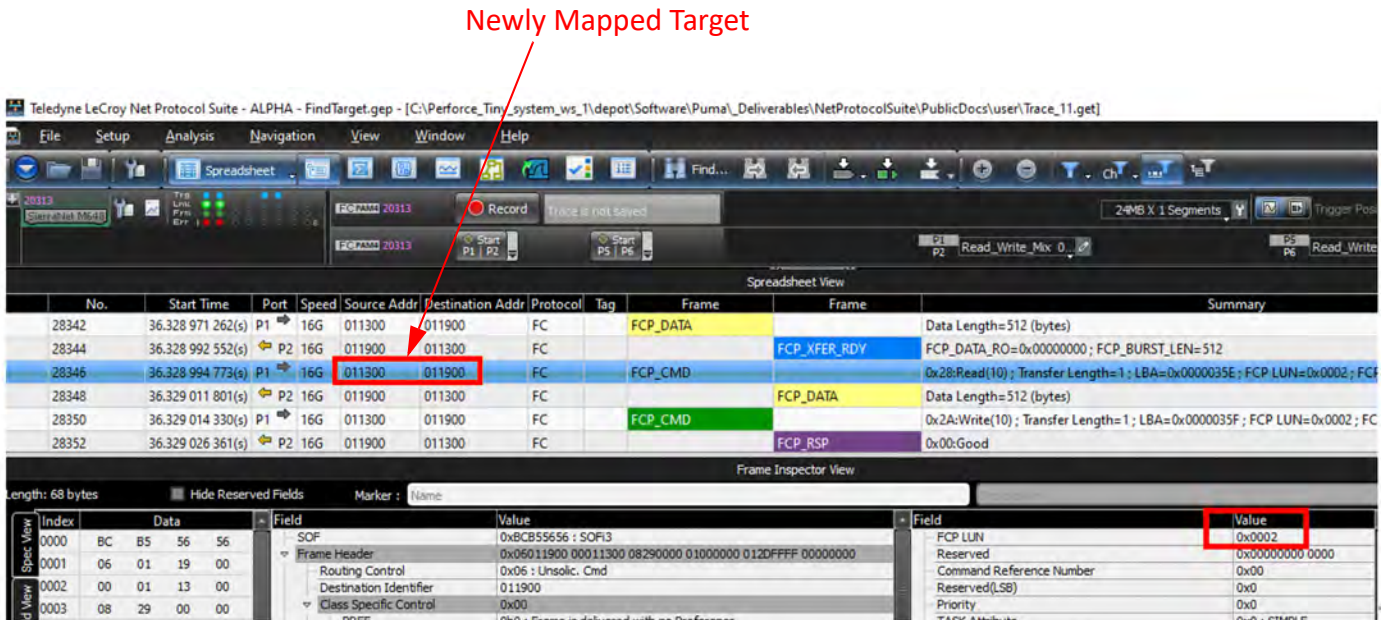

Figure 8.45: New Trace with new mapped target
5. The trace to exerciser script is complete. To create a trace, similar to the one shown in Figure 8.45, run the script and capture. The original trace's target is now mapped to the new target.